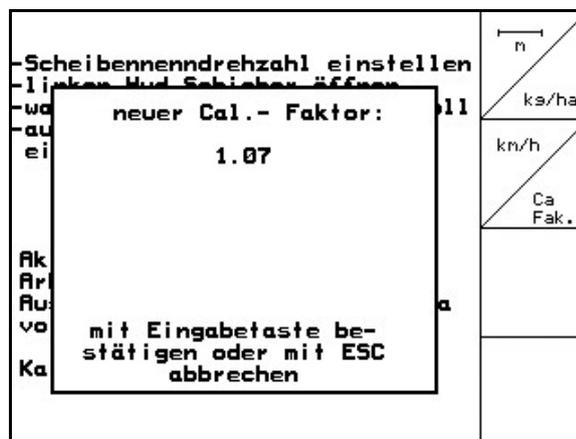

Fig. 55
6. The new calibration factor is displayed and confirmed with or discarded with (Fig. 55).